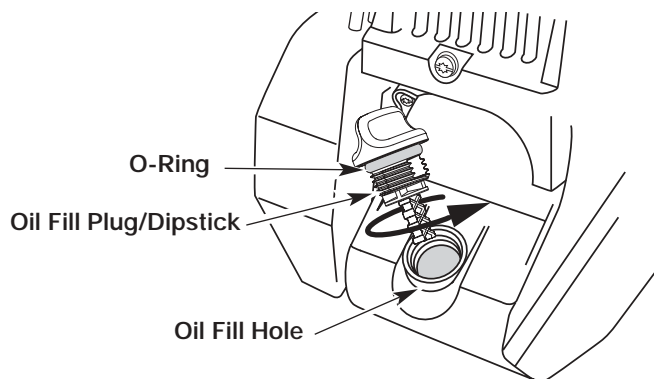

Fig. 58
6. If the level is low, add a small amount of oil to the oil fill hole and recheck (Fig. 58). Repeat this procedure until the oil level reaches the top of the dipstick.
NOTE: Make sure the O-ring is in place on the oil fill plug/dipstick when checking and changing the oil (Fig. 58).